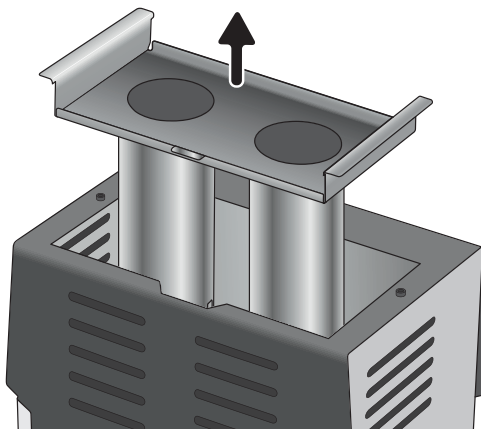

Fig. 4: Removing the grill insert
2. Pull the grill insert upwards and out of the appliance as shown (fig. 4).